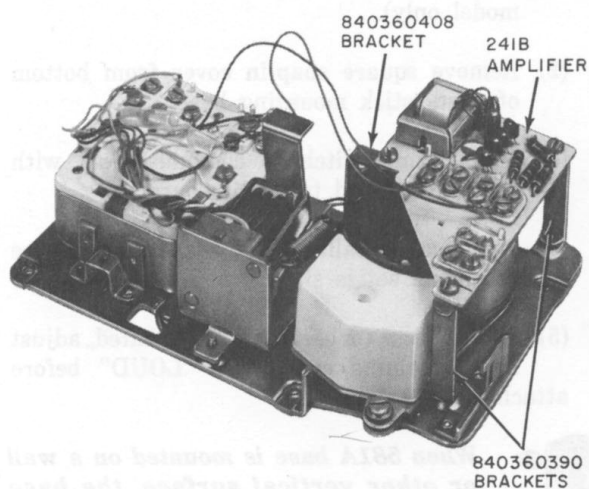

Fig. 7—Installation of D-180409 Kit of Parts
- (1) Install the three 241B amplifier mounting brackets at location shown in Fig. 7, using screws furnished with kit of parts.
- (2) Mount amplifier to brackets with screws furnished in kit of parts.
- (3) Connect amplifier into telephone circuit in accordance with Table G for rotary dial and Table H for TOUCH-TONE dial.